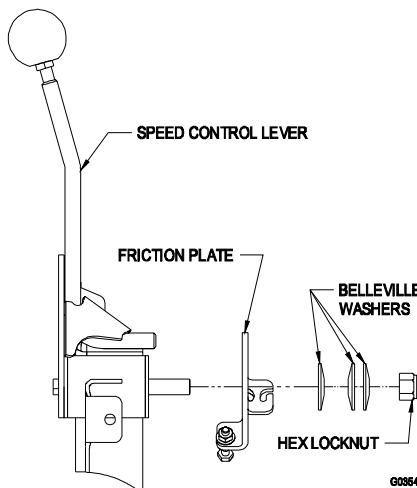

FIGURE 11
- b) Tension in speed control lever can be adjusted by adjusting the tightness of the lever pivot bolt, which is located under the seat near the speed control lever. See Figure 11.